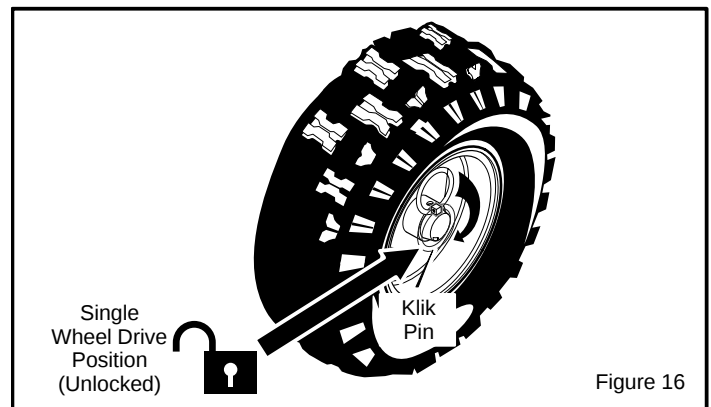

Figure 16
2. For ease of maneuverability when lighter conditions prevail, remove klik pin from wheel locked position and insert into single wheel drive (unlocked) position (Figure 16). Make sure that the klik pin is in the single wheel drive position of the axle only and not through the locked position.